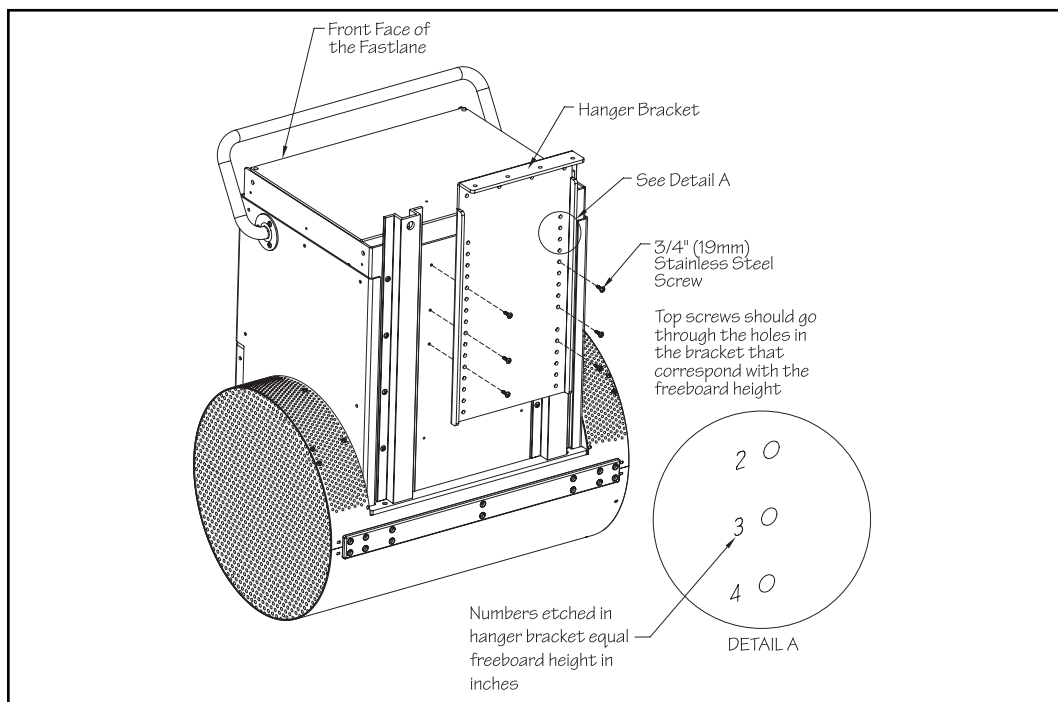

Fig. 9.2
9.2 Carefully lay the assembled Fastlane Pro down on its front face. There are six pre-drilled holes in the center of the top housing (between the protective hat channels). Align the top set of holes in the housing with appropriate number hole in the hanger bracket (if the freeboard is 6" (15,2cm) then align the #6 holes with the top holes in the housing). When the hanger bracket is positioned on the housing, use the provided 3/4" (19mm) screws to attach (Fig 9.2).